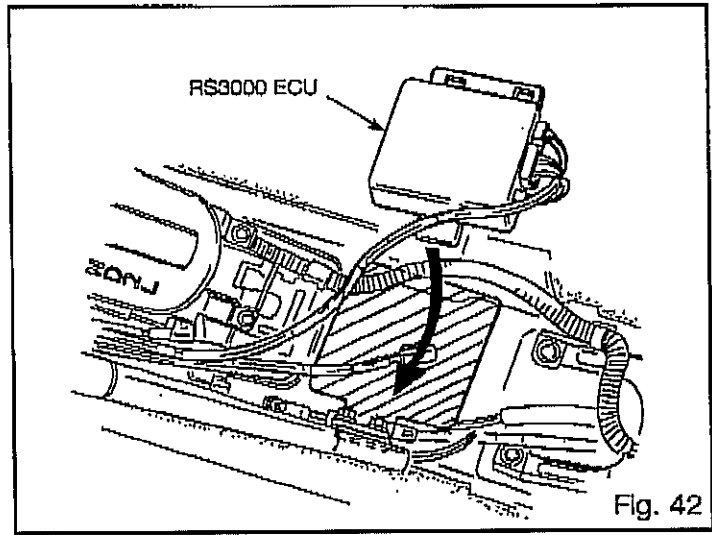

Fig. 42
(3) Peel the protective backing off the butyl tape pad affixed to the bottom of the ECU, place the ECU (connectors facing back) under the airbag ECU's harness, and press the ECU firmly into place. Fig 42